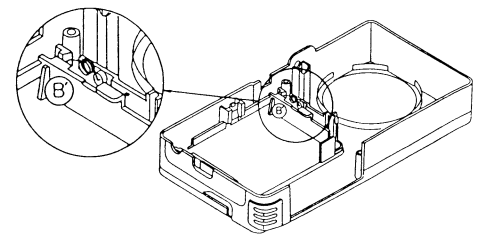

Fig. 5
3. Close the cassette lid and then insert spring end B in hole B' in the cassette lid as shown in Fig. 5.